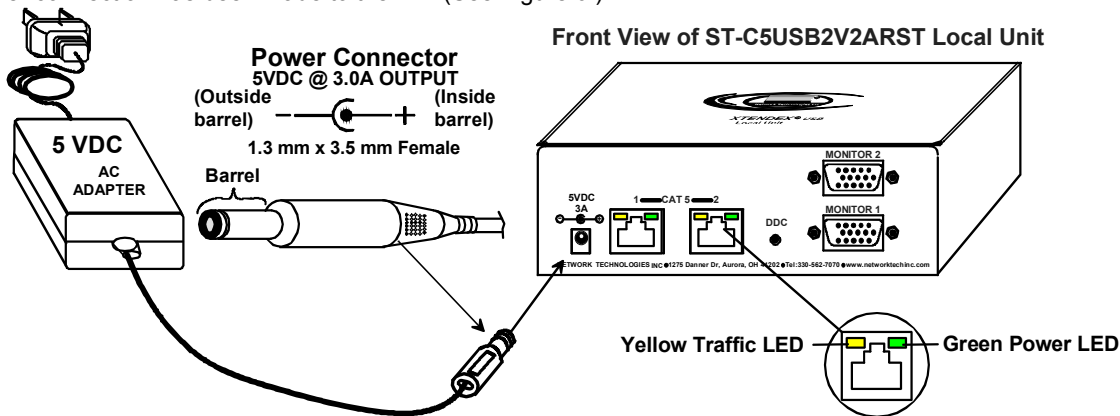

Figure 6- Connect the AC adapter(s)
2. Connect each AC adapter power connector to the 5VDC ports on the Remote and Local Units. (Model ST-C5USBVT only has a power supply at the Remote Unit. The Local Unit is powered by the CPU.) Plug each AC adapter into a power outlet. The green LED on the RJ45 connector of both the Remote and Local Units should illuminate, indicating that a proper power connection has been made to them. (See Figure 6.)
Note: The yellow LED on RJ45 connector “CAT5 #1” will illuminate and “CAT5 #2” will blink anytime data traffic is passing between the Local and Remote Units, indicating proper CAT5 cable connection and communication. (See Figure 6)